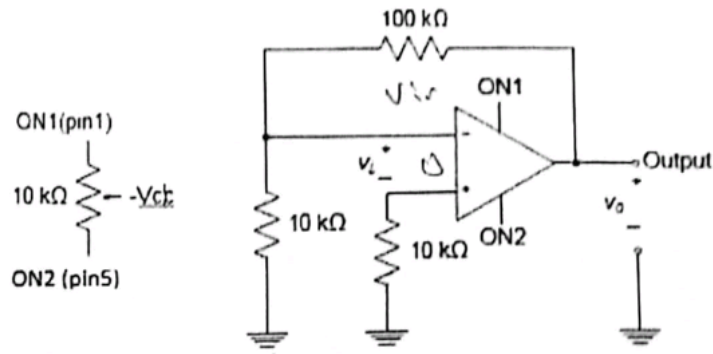

Figure 2.7 DC offset test circuit.
2. Construct the circuit in Figure 2.7 with potentiometer connected to the OP-AMP and set the potentiometer to such a point where V_{out} comes to be 0.00V. The schematic below shows two global connections, ON1 and ON2. In the physical circuit, these connections have to be realized via wires, i.e., the potentiometer must be connected to the offset null pins of the OPAMP, and the middle pin to the $-V_{cc}$ of OPAMP. Record the output in Table 2.1.